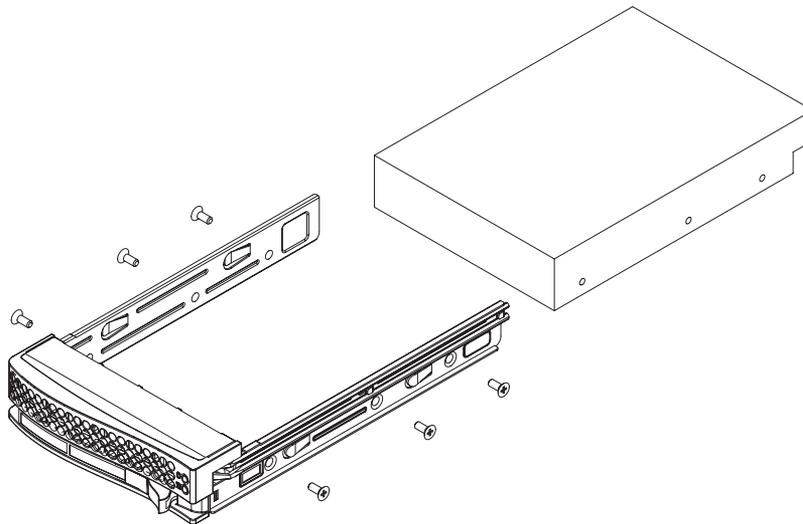

Figure 6-4 Mounting a Drive in a Carrier
2. Secure the drive to the carrier with four screws, as shown in Figure 6-4.